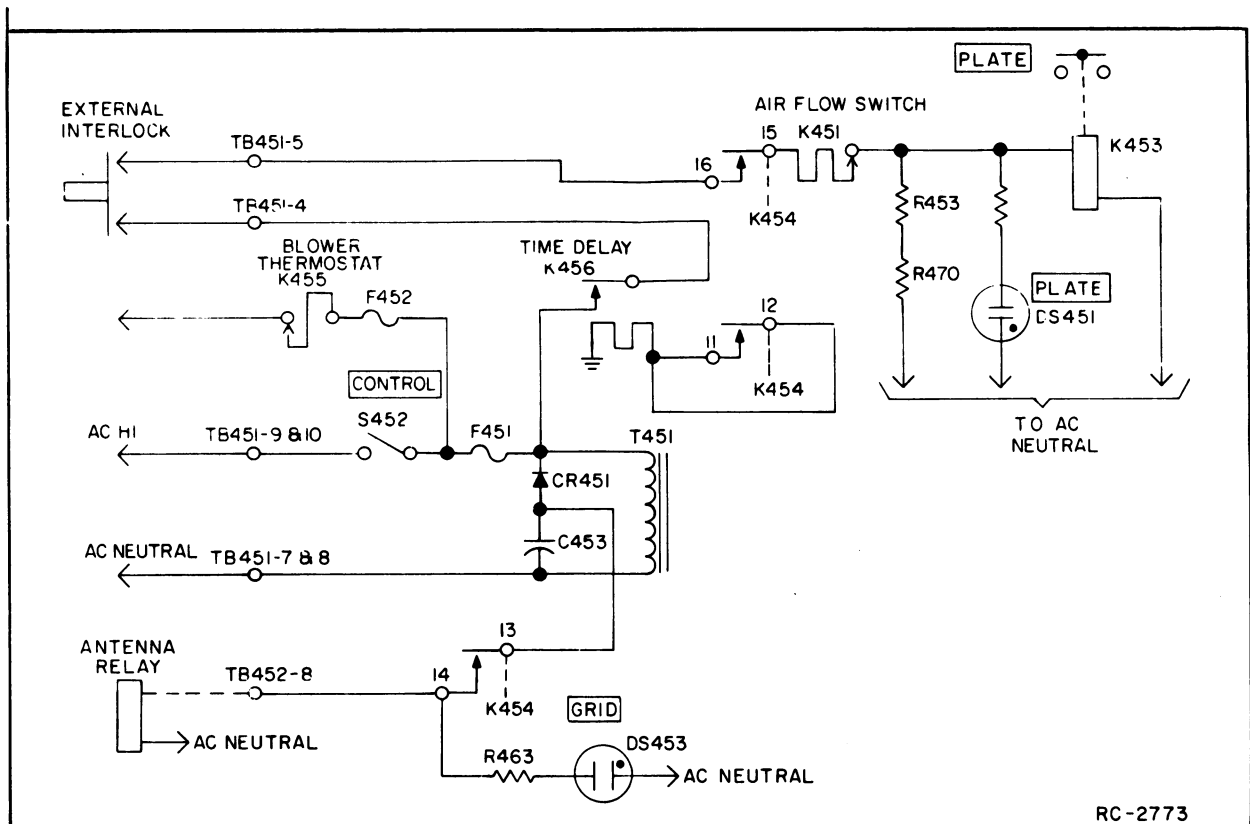

Figure 6 - Plate Relay and Antenna Relay Supply
External Interlock (Figure 6)
Air Flow Switch K451 (Figure 6)
Antenna Relay Supply (Figure 6)
Plate Relay (Figure 6)
* Cabinet Blower Thermostat K455 (Figure 6)
Time Delay Relay K456 (Figure 6)